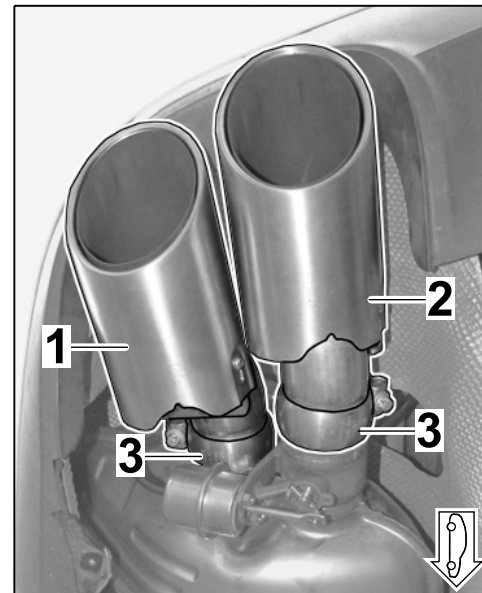

Figure 11
3.3.1 Pre-fit ball clamp (⇒ *Figure 11-3-*) on inner/outer tailpipe as shown in Figure 11 (left side: ⇒ *Figure 11*, right side: mirror image).